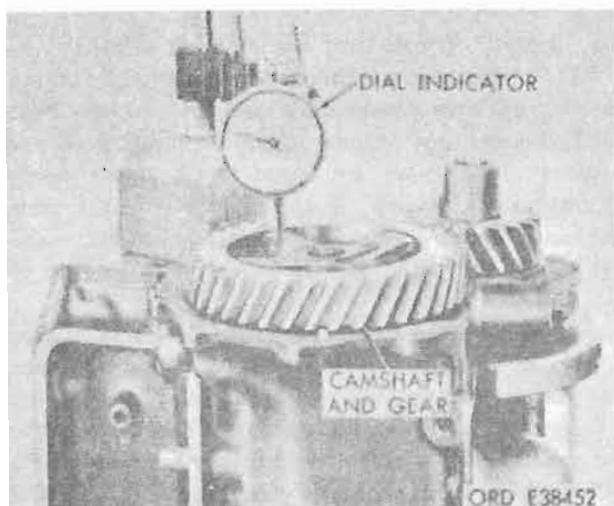

Figure 4-243. Measuring camshaft end play.
c. *Check Camshaft End Play.* Place dial indicator on cylinder block so contact tip resets against end of camshaft and indicator axis is parallel to crankshaft axis. Move camshaft to limits of its end play and note reading on indicator dial. If end play is excessive (refer to table 4-9), check to make sure camshaft gear was pressed firmly against camshaft shoulder. Replace thrust plate if necessary (para 4-65). Recheck end play (fig. 4-243).